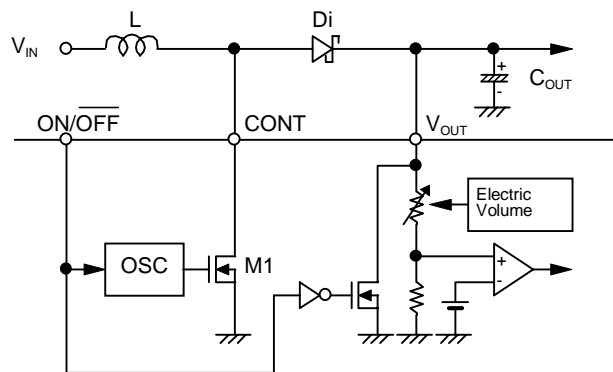

Figure 5 Step-Up DC-DC Converter
The following are fundamental equations of step-up switching regulators [(1) to (7)] (see Figure 5).